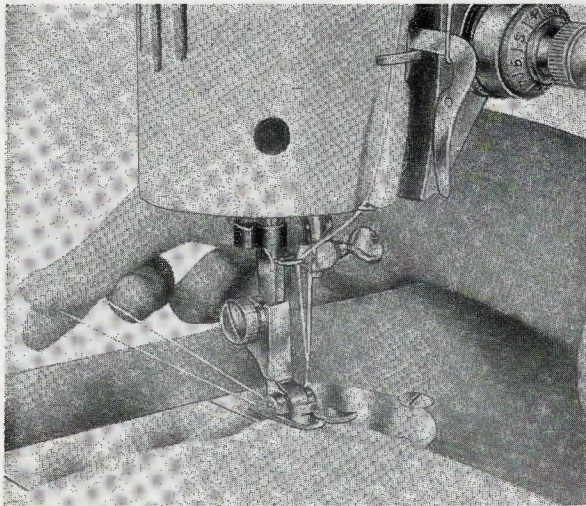

Fig. 13
4. Place both ends of the upper and lower thread between the toes of the presser foot and pull them backwards under the presser foot (Fig. 13).